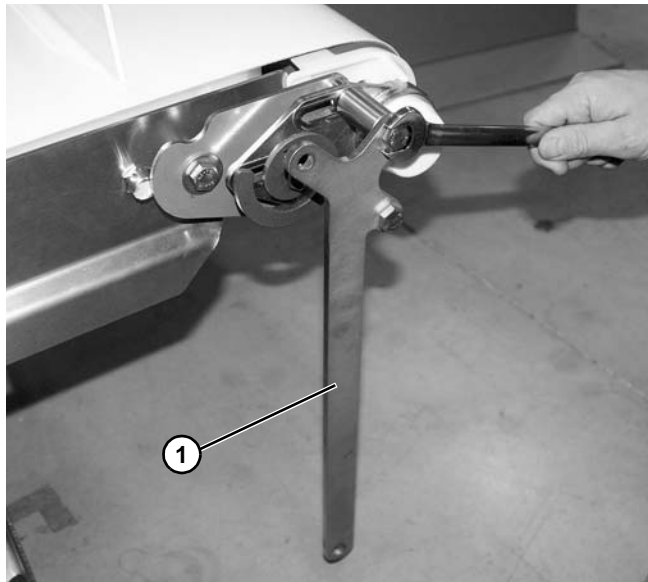

Figure 76
2. Remove tip up handle (Figure 76, item 1) when required.